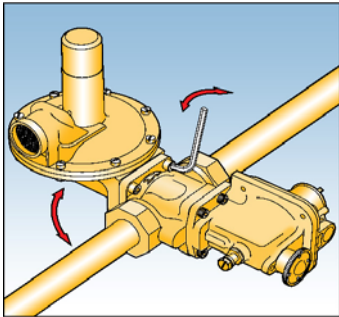

Fig. 2
8. In order to fit the regulator into confined spaces it may be necessary to rotate the diaphragm case. This is achieved by unscrewing the four cap screws rotating the diaphragm case, in 90° increments to the required rotation and then re-tightening the cap screws evenly. See Fig. 2.